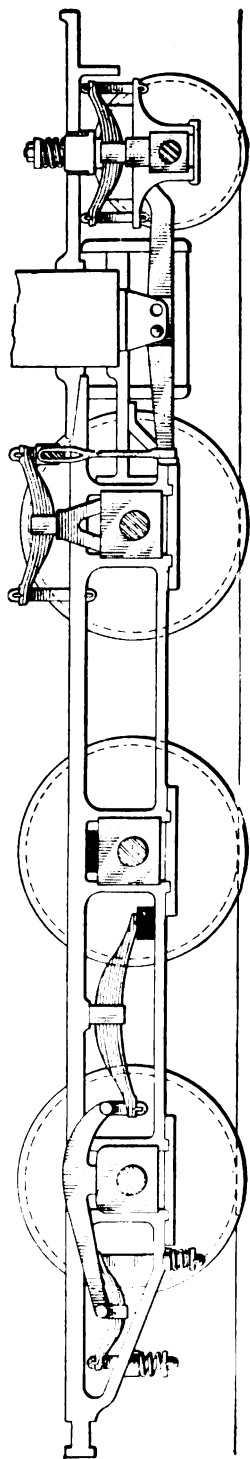

FIG. 34.
71. When the main spring, or hanger, on a mogul engine having spring rigging like that shown in Fig. 34, breaks, the following plan should be used: Place a block between the top of the driving box and the frame on the front and back drivers so as to take up the play there and prevent the boxes rising in the pedestal jaws. Then run these two drivers up on wedges so as to raise the frame to its regular height above the main driving box, and block up this box by placing an iron block